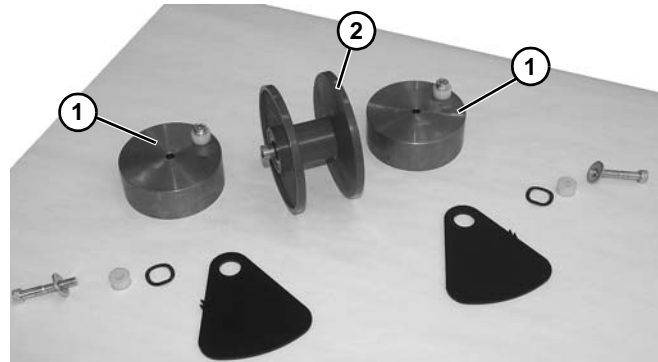

Figure 138
9. Remove weights (Figure 138, item 1) from each side of pulley (Figure 138, item 2).